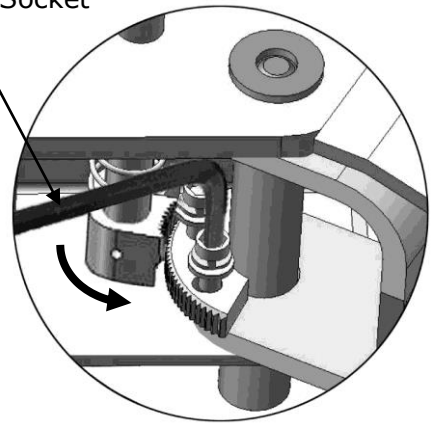

Fig. 31
2. Lowering the carriages down to the lowest position, then use the 8# socket head wrench to loosen the socket bolt (**See Fig.31**).